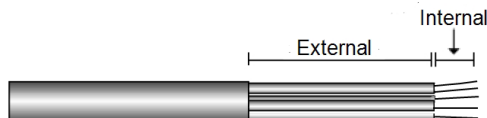

Figure 14: Insulation stripping – AC
3. Strip 8mm of the grounding wire insulation (see *Figure 14*).